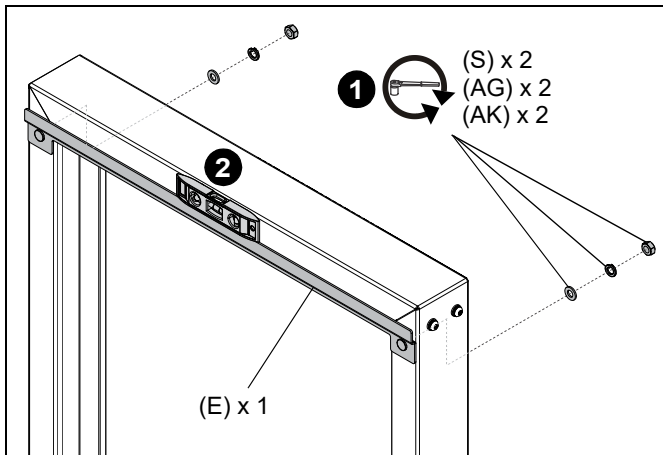

Figure 12
1. Loosely install a mounting cleat (E) to each frame using two 10mm washers (AG), two 10mm lock washers (AK), and two 10mm hex nuts (S). (See Figure 12)
2. Place a level on the mounting cleat(s) on the front of the frame(s) and adjust its position until level. Tighten the hardware. (See Figure 12)